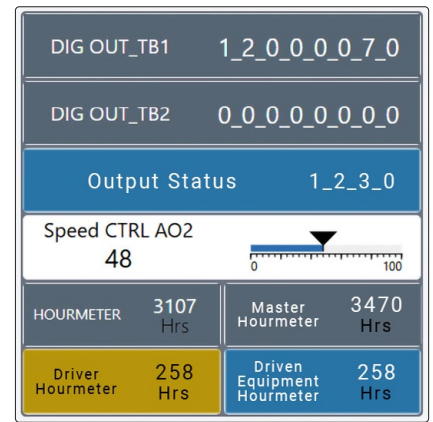

Figure 16
- First Section:** Displays the status of all digital outputs on the primary terminal board. 0 indicates off. A number greater than 0 indicates the number of the output that is on. In the example in *Figure 16*, outputs 1, 2, and 7 are on. All others are off.
- Third Section:** Shows the status of the outputs on the power supply board. The same method applies. In the example in *Figure 16*, outputs 1, 2, and 3 are on, and output 4 is off.